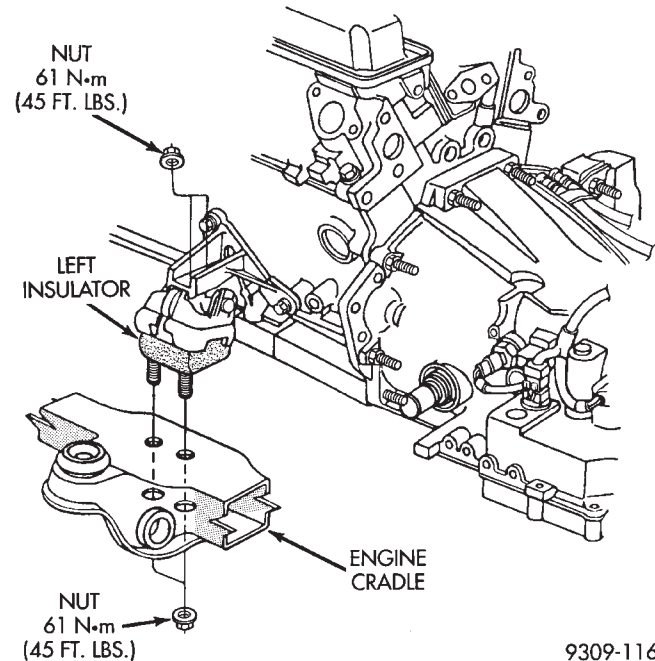

Fig. 23 Engine Mounting—Typical
- (1) Remove the insulator attaching nuts from top of the mounting bracket.
- (2) Raise vehicle on hoist.
- (3) Support the engine with a jack and a block of wood across the full width of the oil pan.
- (4) Remove the lower attaching nuts from the bottom of the insulator to the frame (Fig. 23).
- (5) Raise engine carefully with jack enough to remove the insulator from it's mount.
- (1) Install insulator onto the frame.
- (2) Lower the engine onto the insulator mount (Fig. 23). Remove jack from vehicle.
- (3) Tighten the insulator to frame nuts to 61 N·m (45 ft. lbs.).
- (4) Lower vehicle. Install the upper attaching nuts to mount and tighten to 61 N·m (45 ft. lbs.).
(13) Remove transmission inspection cover and mark flex plate to torque converter position.
(14) Remove bolts holding torque converter to flex plate and attach C-clamp on bottom of converter housing to prevent torque converter from coming out.
(15) Remove power steering pump mounting bolts and set pump aside.
(16) Remove two lower transmission to block screws.
(17) Remove starter.
(18) Lower vehicle and disconnect vacuum lines and ground strap.
(19) Insert floor jack with small block of wood under transmission pan to support transmission.
(20) Attach engine lifting hoist and support engine.
(21) Remove upper transmission case to block bolts.
(22) See Engine Mounting in (Fig. 23). Remove insulator mounting nuts from mount.
(23) Hoist engine from engine compartment.
(1) Attach hoist and lower engine into engine compartment.
(2) Align engine mounts and install all nuts. Tighten fasteners to specified torque (Fig. 23).
(3) Install transmission case to cylinder block, tighten bolts to 102 N·m (75 ft. lbs.) torque.
(4) Remove engine hoist and transmission holding fixture.
(5) Remove C-clamp from torque converter housing. Align flex plate to torque converter and install mounting bolts. Tighten to 75 N·m (55 ft. lbs.).
(6) Install transmission inspection cover.
(7) Connect exhaust system at manifold.
(8) Install starter.
(9) Install power steering pump and air conditioning compressor belts. Refer to Group 7, Cooling System for procedure.
(10) Lower vehicle and connect all vacuum lines.